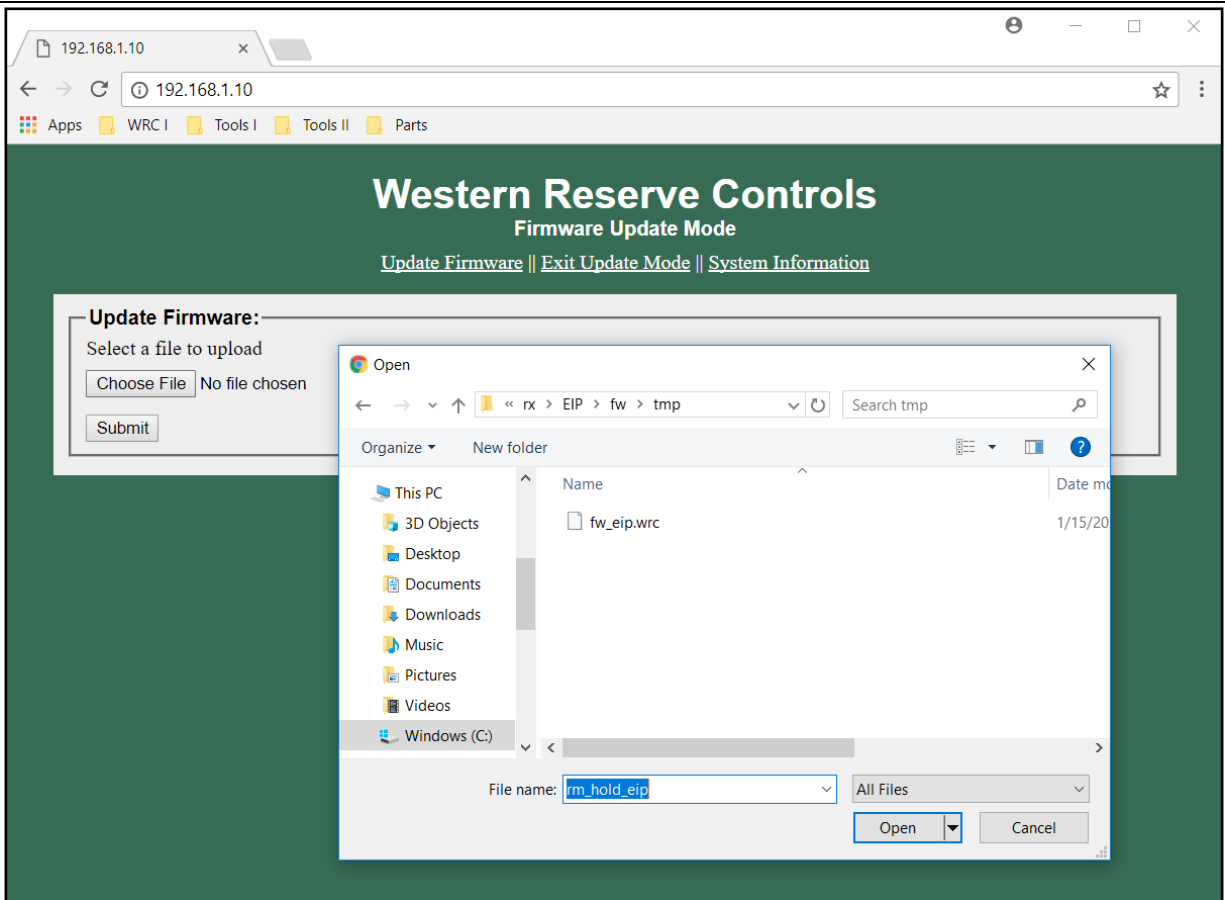

Figure 27. Select Firmware File
3. Click the 'Choose File' button to open a file-select dialog, see Figure 27. Select the desired firmware file and press 'Open'.